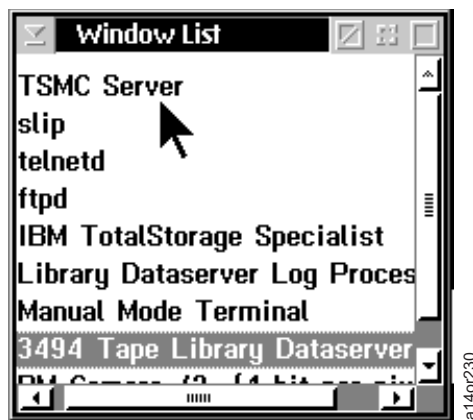

Figure 50. Command Process Window List – Example. The text on your screen might differ with various levels of code or with different machine model numbers.
2. Ensure that the TSSC server is listed in the command process window. Use **Ctrl + Esc** to view the window list. See Figure 50.
- If the TSSC server is not included in the list depicted in Figure 50, you can start the TSSC server by typing **tsmcstrt** from a command line.
- You can stop the TSSC server. Right-click **TSMC Server** from the Figure 50, then click the **Close** button in the dialog box.